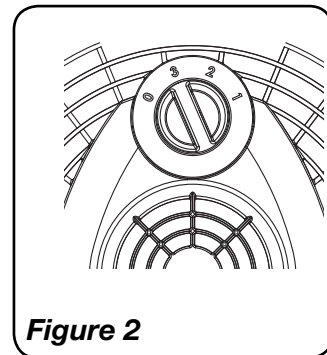
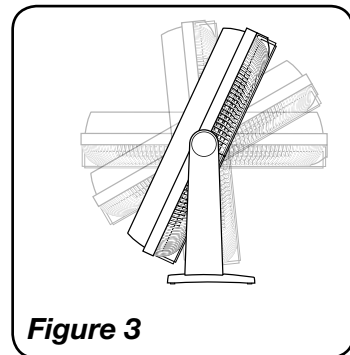

Figure 2
Figure 3
5. Turn the Fan ON by turning the Power/Speed Knob. (Figure 2)
7. To turn the Fan OFF, turn the Power/Speed Knob to OFF (0) and unplug the unit from the electrical outlet.
8. To adjust air direction, rotate Body on Yoke. (Figure 3)